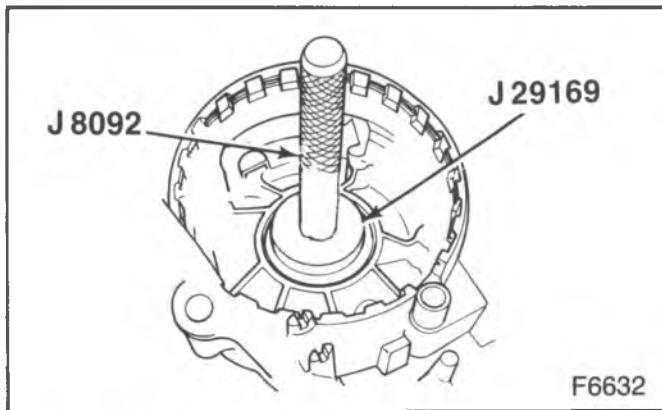

Figure 25—Installing the Front Input Bearing
3. Front output bearing snap ring (40) to the front case (31).
4. Front output shaft seal (42) to the front case (31) using J 37668.
5. Rear output bearing (45) to the rear case (46) using J 8092 and J 33832.
6. Front input bearing (44) to the front case (31) using J 8092 and J 29169 (figure 25).
7. Front input bearing snap ring (43) to the front case (31).